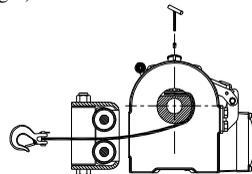

Fig8
- 4). Tighten the screw downwards to secure the wire rope (Fig.8).